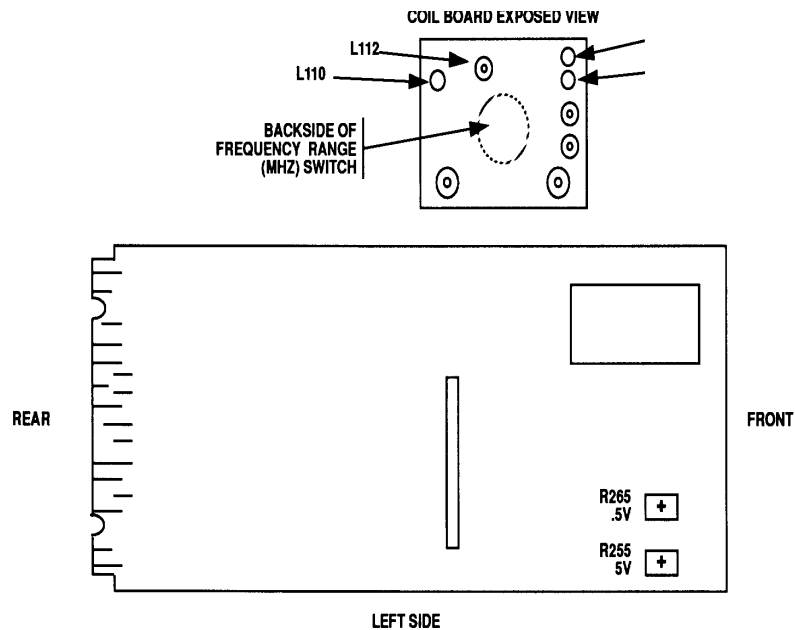

Figure 1. Main circuit board left side - adjustment locations.
(1) Adjust R255 5V (fig. 1) for a 1.767 V ac indication on audio analyzer (R).
(2) Adjust R265 .5V (fig. 1) for a 176.8 mV ac indication on audio analyzer (R).